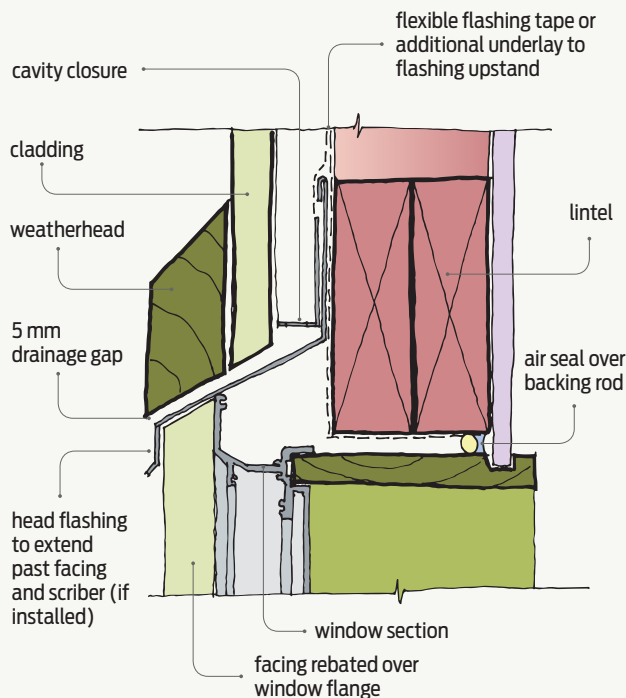
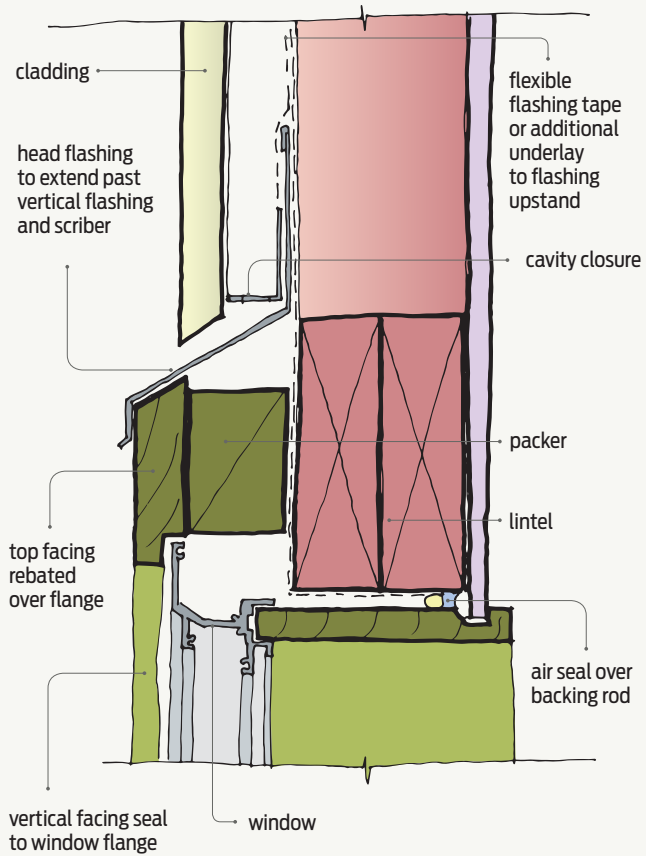

Figure 1 Head detail.
Figure 3 Alternative head detail.
- Directly above the aluminium flange with the facing over (see Figures 1 and 2, or Figure 3 for an alternative head detail).